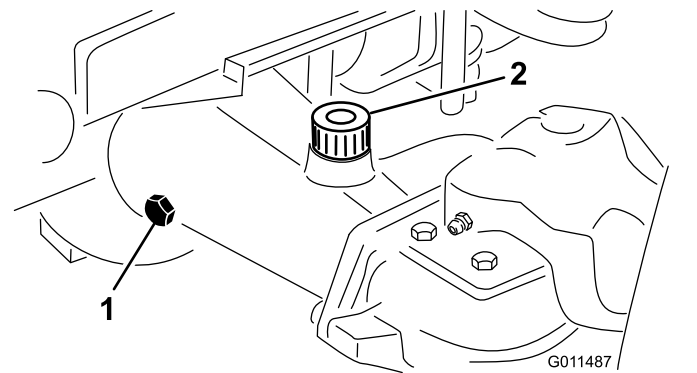

Figure 107
- Remove a check plug from the end of the axle and ensure that the lubricant is up to the bottom of the hole (Figure 107).